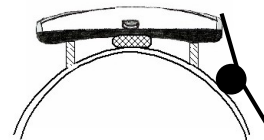

Fig 3
- a. The addition of support shims can substantially improve the stability as shown in Fig 3.